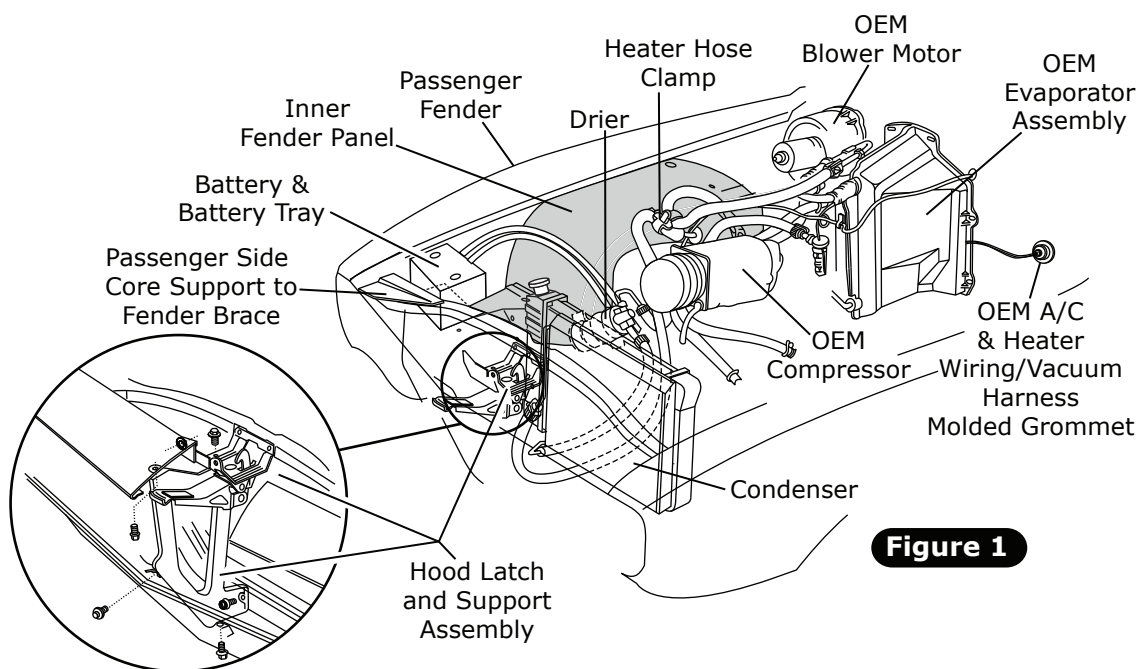

Figure 1
1. Remove battery and battery tray (retain) (See Figure 1, below).
4. Remove condenser and lines (discard) (See Figure 1, below).
5. Remove OEM compressor and bracket (discard) (See Figure 1, below).
7. Remove evaporator and blower assembly (discard). **NOTE: To remove the evaporator and blower assembly (under hood) and the air distribution system (under dash), the factory manual indicates doing the following: Remove right lower rocker molding. Remove lower fender attaching bolts. Remove skirt to fender and skirt to reinforcement screws. Pull out on lower portion of fender, moving the skirt away from the fender flange and firewall. Block the skirt with a 2 x 4 block of wood.** To avoid damage to paint and sheet metal, and for ease of removal and replacement of components, Vintage Air suggests that the right fender be removed and the inner panel be lowered (See Figure 1, below).
8. Remove OEM heater hoses, A/C hoses, hardlines and drier (discard) (See Figure 1, below).
9. Remove OEM heater wiring/vacuum harness molded grommet (See Figure 1, below).